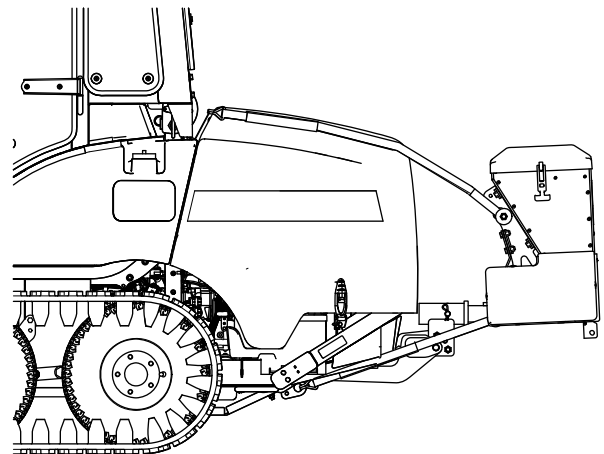

Figure 18
1. Slide the spreader hitch into the receiver hitch on the vehicle and line up the second hole on the spreader hitch with the hole in the hitch of your vehicle (Figure 18).